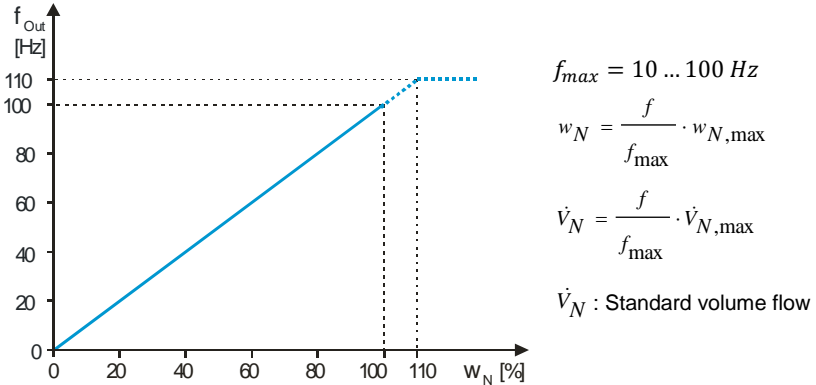

Figure 5-4 Example for $f_{\max} = 100 \text{ Hz}$
- The basic version of the **SS 20.700** maps the flow velocity w_N proportional to a frequency range $[0 \dots f_{\max}]$ with selectable maximum frequency f_{\max} (see Figure 5-4).